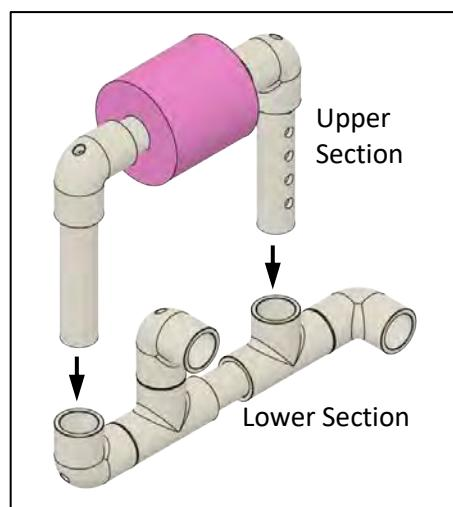

Figure 20
- Assemble the upper and lower frame sections (right and left sides). (Figures 20 & 21)